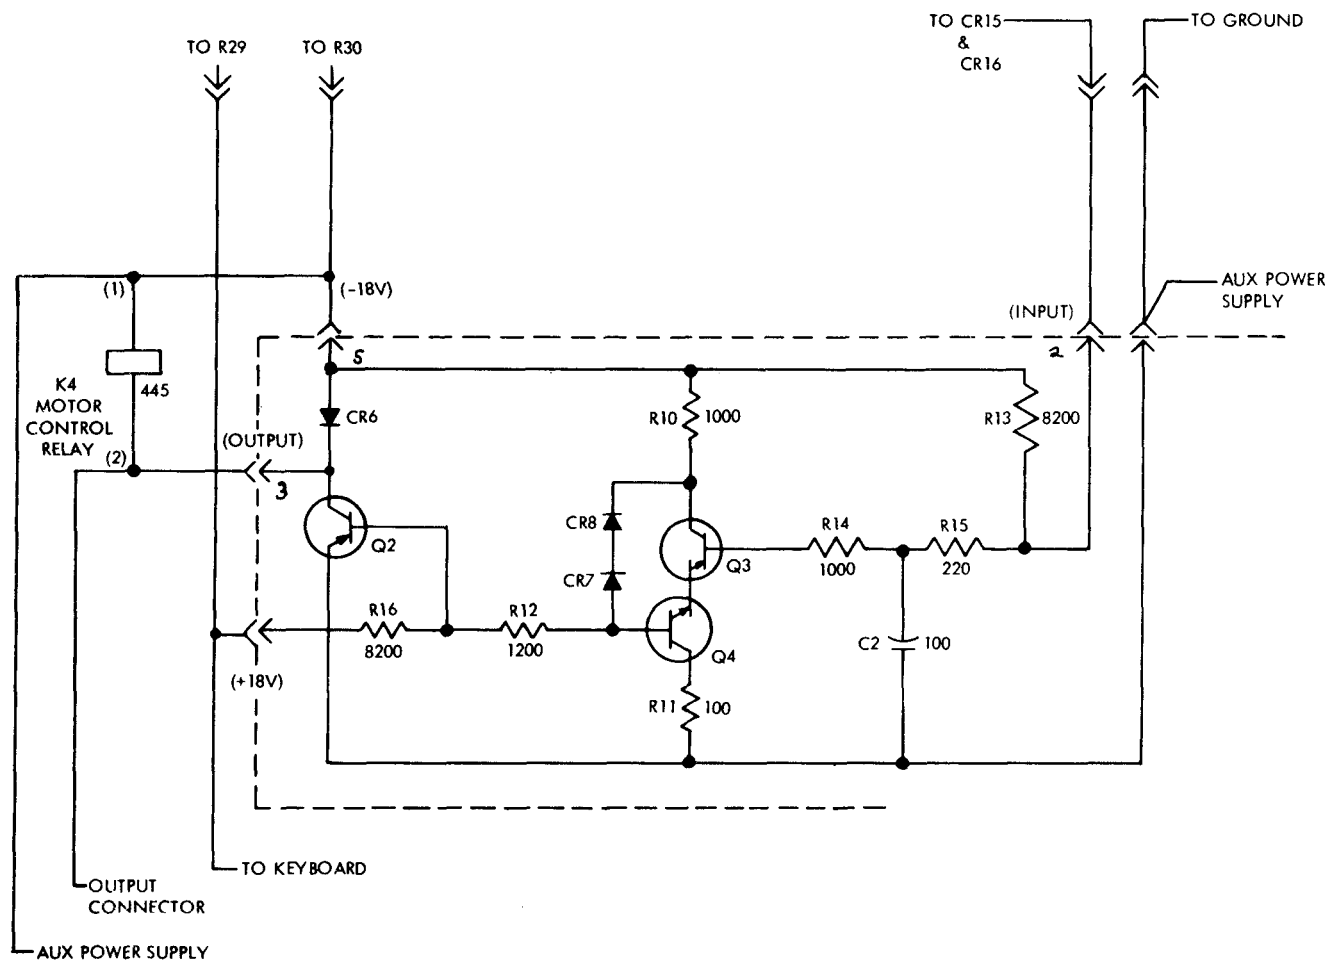

Figure 5 - Motor Delay Timer Circuit
**3.09** The motor delay timer circuit (Figure 5), provides the means to delay motor turn-off in the teletypewriter. This allows the teletypewriter to complete its printing cycle and come to rest before the motor begins to stop. This circuit, along with the selector magnet driver circuit, are mounted on the same circuit card but are electronically independent of each other. The circuit is designed to drive a motor control relay connected between points 3 and 5 and is operated when either the connect or local circuit is on.